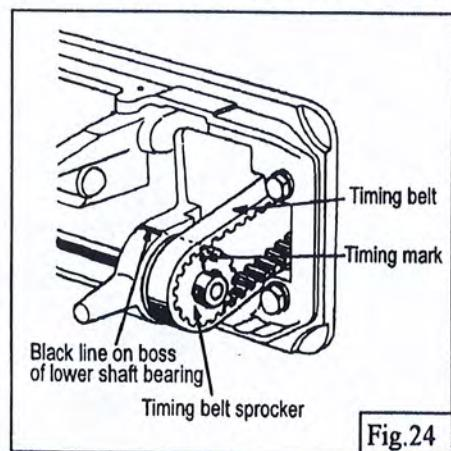

Fig.24
17) Relationship between rotating hook motion and take-up lever motion (Fig.24)